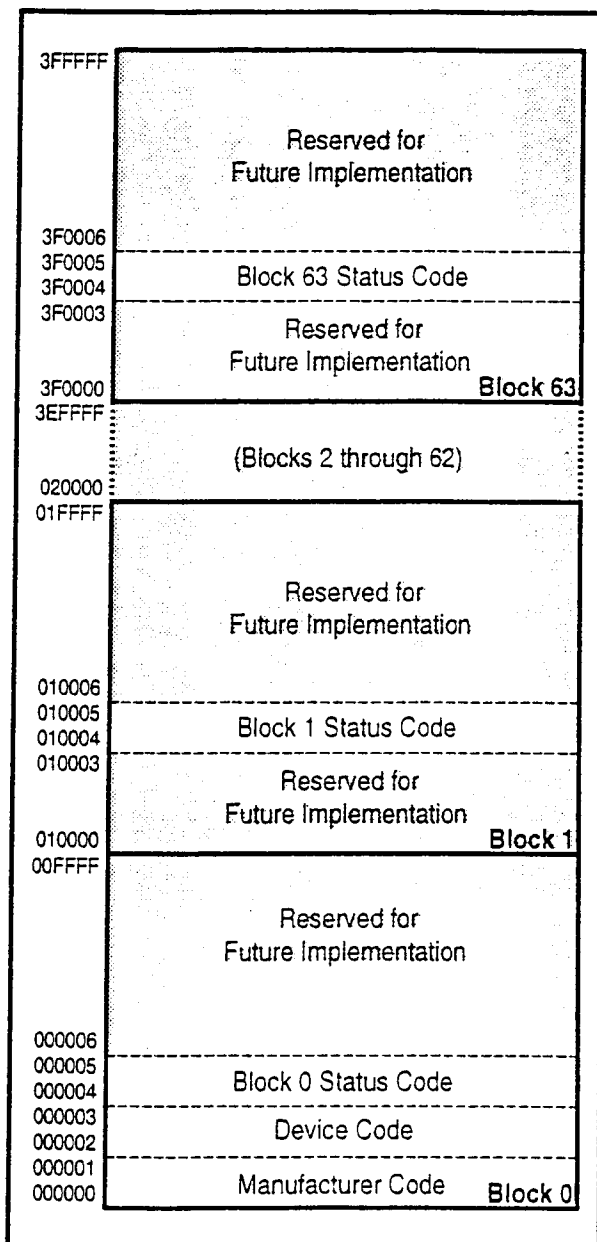

Figure 5. Device Identifier Code Memory Map
The read identifier codes operation outputs the manufacturer code, device code, block status codes for each block (see Figure 5). Using the manufacturer and device codes, the system CPU can automatically match the device with its proper algorithms. The block status codes identify locked or unlocked block setting and erase completed or erase uncompleted condition.
IA=Identifier Code Address: see Figure 5.
The identifier code operation is initiated by writing the Read Identifier Codes command. Following the command write, read cycles from addresses shown in Figure 5 retrieve the manufacturer, device, block lock configuration and block erase status (see Table 5 for identifier code values). To terminate the operation, write another valid command. Like the Read Array command, the Read Identifier Codes command functions independently of the V_{PP} voltage and $RP\#$ must be V_{IH} . Following the Read Identifier Codes command, the following information can be read:
- X selects the specific block status code to be read. See Figure 5 for the device identifier code memory map.